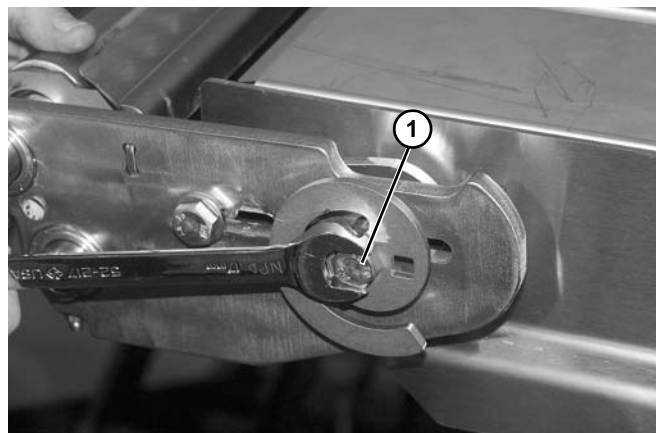

Figure 166
13. If needed, tighten or loosen screw (Figure 166, item 1) on each side to move idler tail up or down to level with conveyor bed rail.